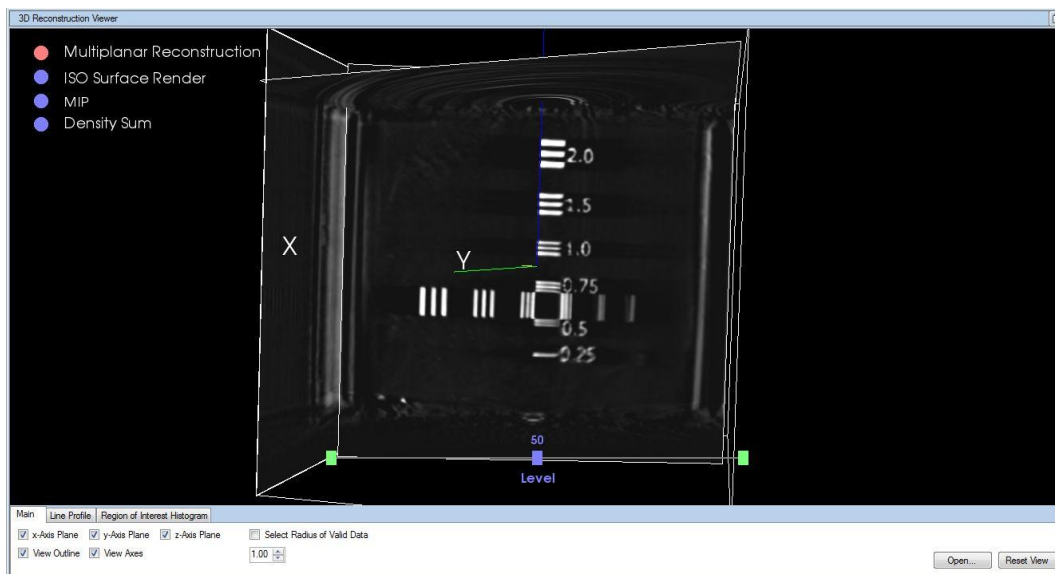
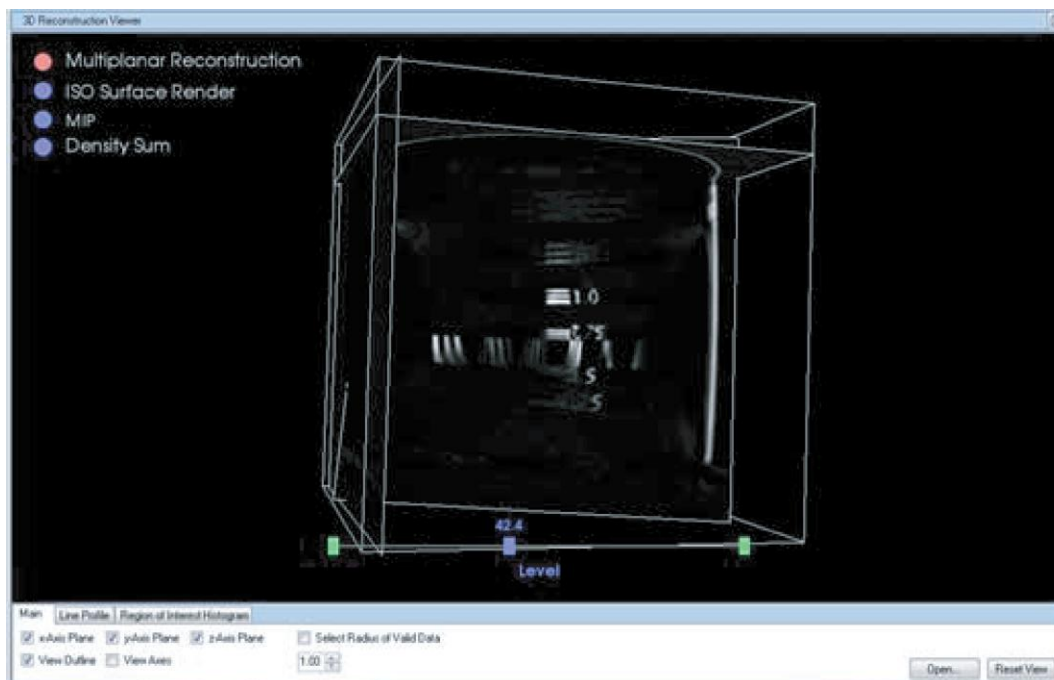

Figure 6: Line Pair pattern properly aligned in 3D image
Figure 7: Gradient appearance on Line Pair pattern due to poorly aligned plane
21. Navigate the 3D image until the entire Line Pair pattern is visible as shown in Figure 6. The Line Pair pattern should not have a 'gradient' appearance as shown in Figure 7.